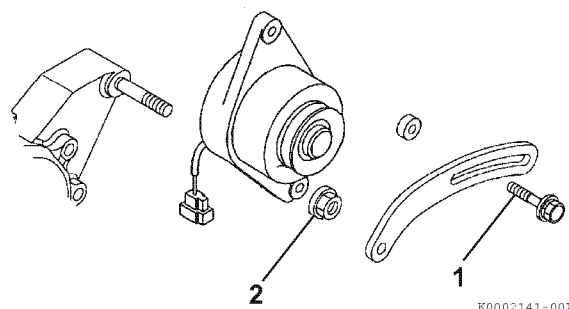

Figure 11-29
1. Position the dynamo on the gear case. Loosely install the nut (**Figure 11-29, (2)**) on the gear case stud and the V-belt adjuster bolt (**Figure 11-29, (1)**).